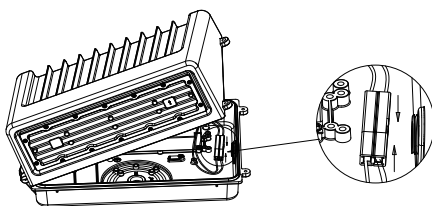

Fig. 1-5A
4. Connect the quick connect terminal, then screw the fixture with bottom plate. (Fig. 1-5A&B)